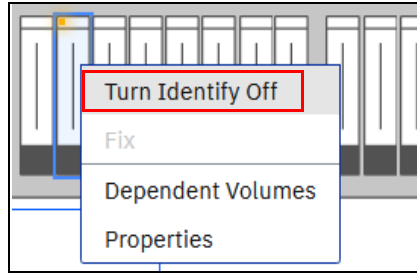

Figure 4-36 Turning off the Identify LED
3. After the confirmation, click **Turn Identify Off** (see Figure 4-36).